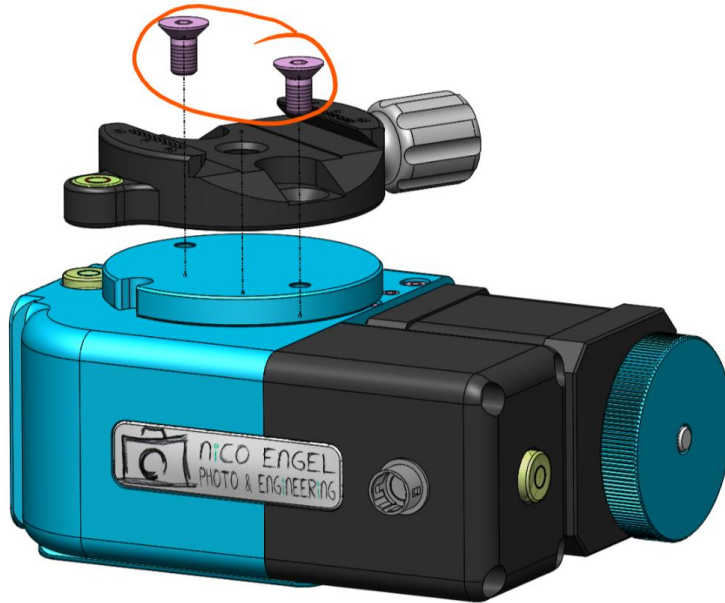

Fig. 1
2. remove two countersunk screws DIN 7991 - M5x10 (Fig. 1)
13. Mount the countersunk screws (Fig. 1) again and tighten them to a maximum of 4.0Nm.